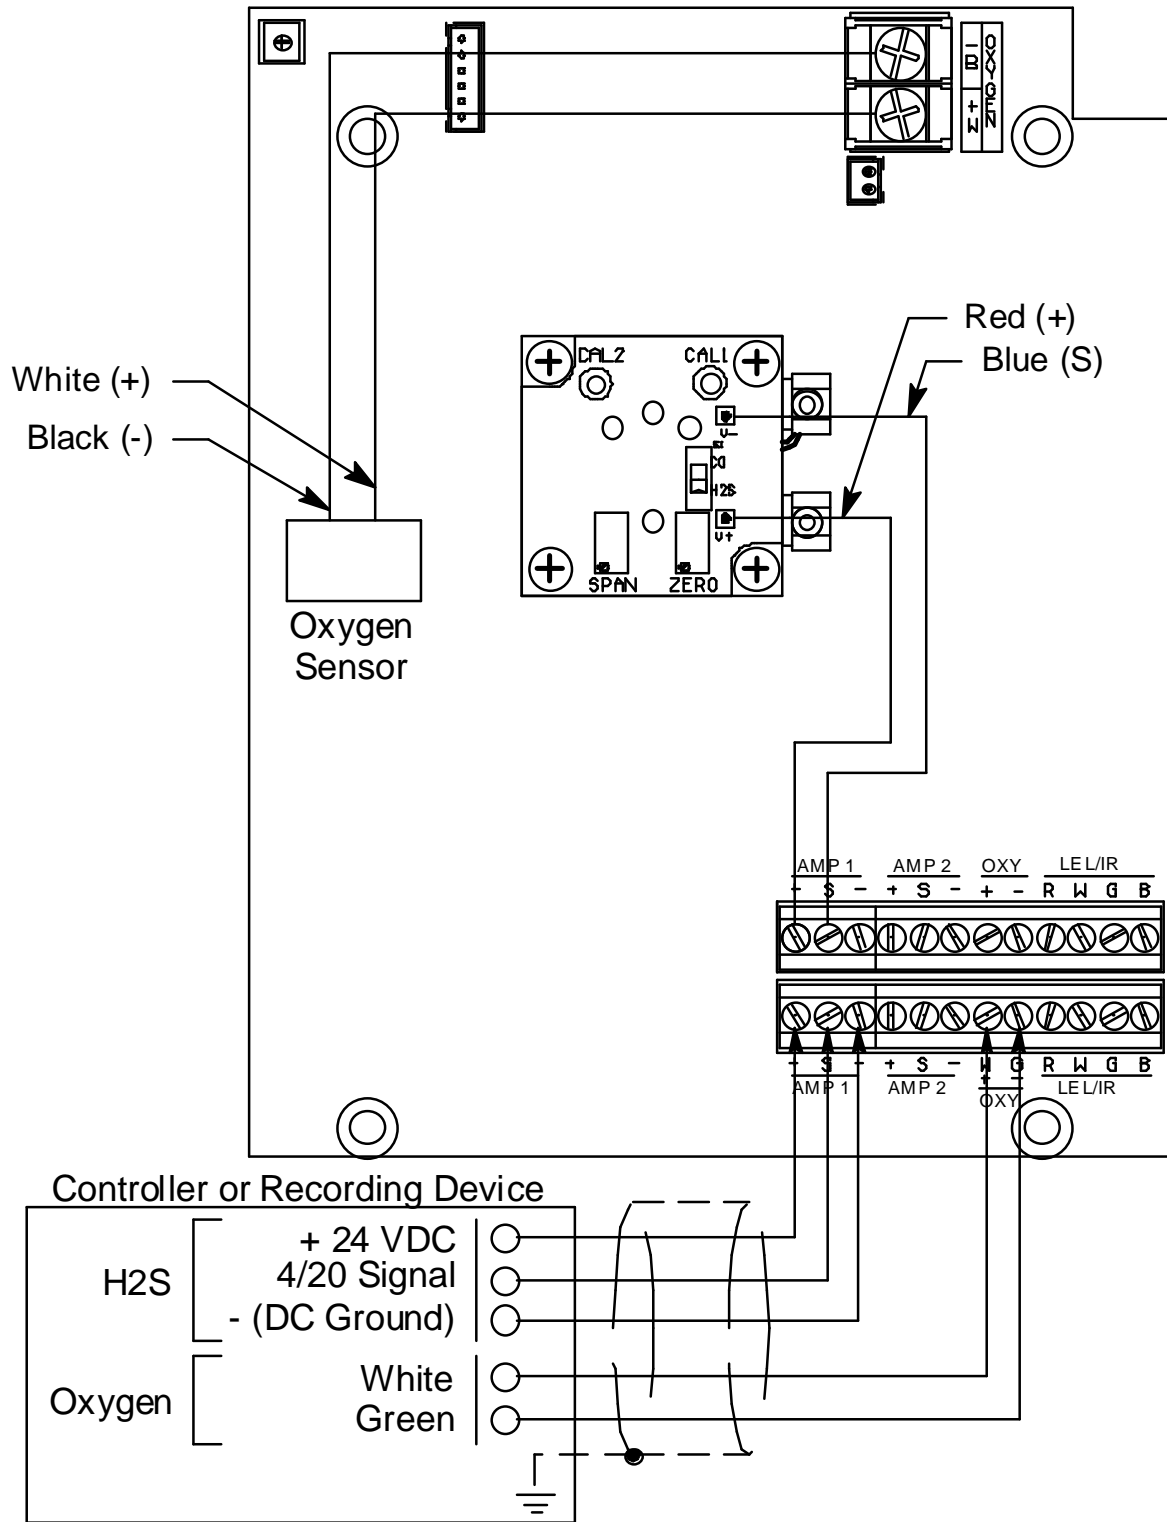

Figure 5: Wiring the Sample-Draw Detector to a Controller
5. Connect the cable to the sample-draw detector’s interconnect terminal strip as shown in Figure 5.
8. Connect the wires to the applicable detector/transmitter terminal strip at the controller as shown in Figure 5. Refer to the controller operator's manual and the controller detector head specification sheet for the 35-3001-09 for detector/transmitter terminal strip connections specific to the controller.